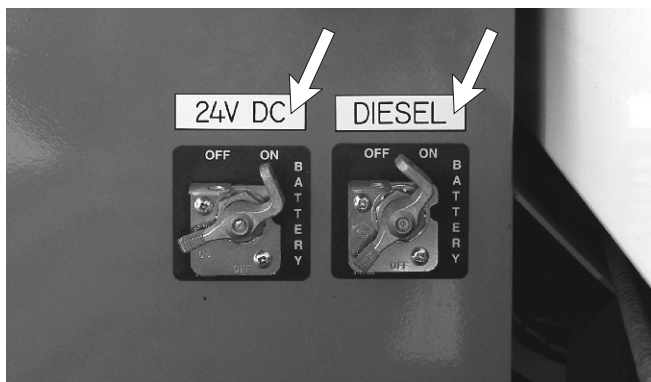

Figure 11.5 - Master Battery Isolator Switches
There are two (2) Master Battery Isolater Switches mounted at the end of the control cabinet (see Figure 11.5).